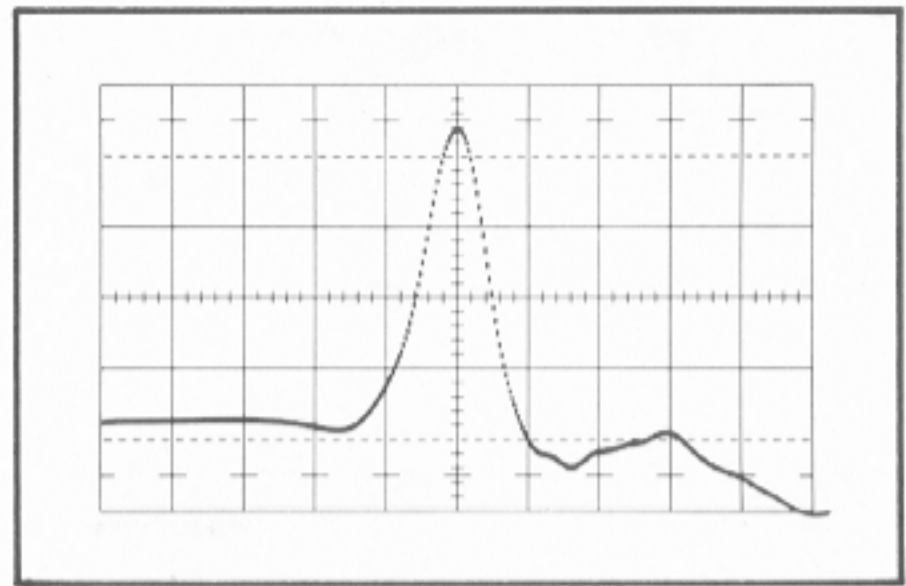

Fig. 6-7. Typical CRT display of Strobe Pulse.
- c. Disconnect the cable from Jack J2009, on the sampler board. See Fig. 6-7(B).
f. Locate the strobe pulse on the test scope CRT. Adjust the 1S1 Time Position control, the Trig Sensitivity control and the Recovery Time control for a stable display as shown in Fig. 6-7.